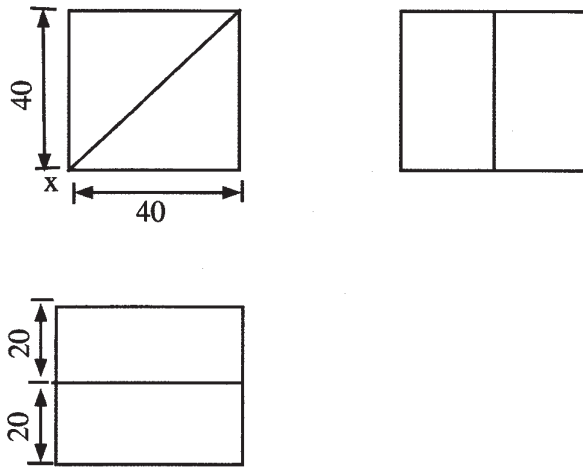

Figure 1
- 10 Figure 1 shows a wooden block drawn in first angle orthographic projection.